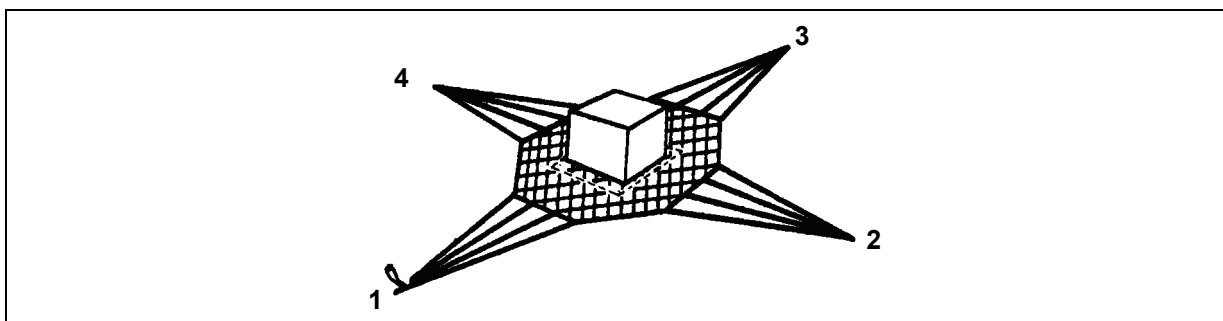

Figure 7-6. Aligned Load
- Align the load on the net so that the sides of the load are parallel with the yellow cord (Figure 7-6). The load may overlap the yellow cord if the load is bigger than the yellow cord marked area. If the load is placed correctly, the load's center of gravity will be near the center of the net. The lifting legs will be on the side of the load, not on the corners. If the load is loose cargo, place the cargo on the net with the heaviest items in the center and the lighter items toward the sides or on top of heavier items.